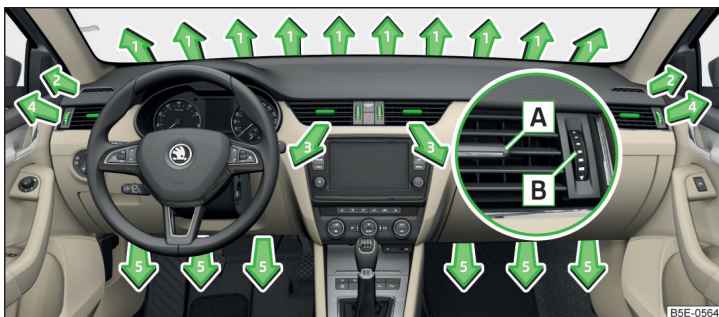
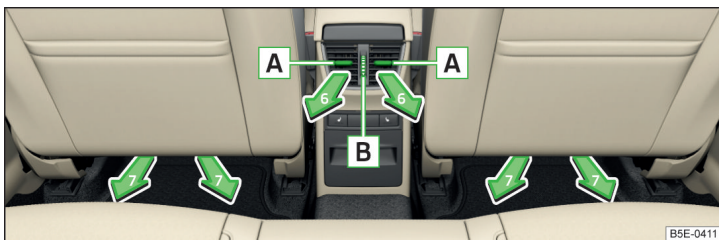

Fig. 130 Air vents at the front
Fig. 131 Air vents at the rear
The direction of airflow can be adjusted using the air outlet vents **3, 4** » Fig. 130 and **6** » Fig. 131 - the outlets can be opened and closed individually.
- › To change the height of the air flow, swivel the horizontal fins with the movable adjuster **A** » Fig. 130 or » Fig. 131 upward or downward.
- › To change the lateral direction of the air flow, turn the vertical fins with the movable adjuster **A** » Fig. 130 or » Fig. 131 to the left or right.
- › Turn regulator **B** » Fig. 130 or » Fig. 131 upwards.
- › Turn regulator **B** » Fig. 130 or » Fig. 131 downwards.
Set the direction of the air outlet	Active air outlet nozzles » Fig. 130 and » Fig. 131